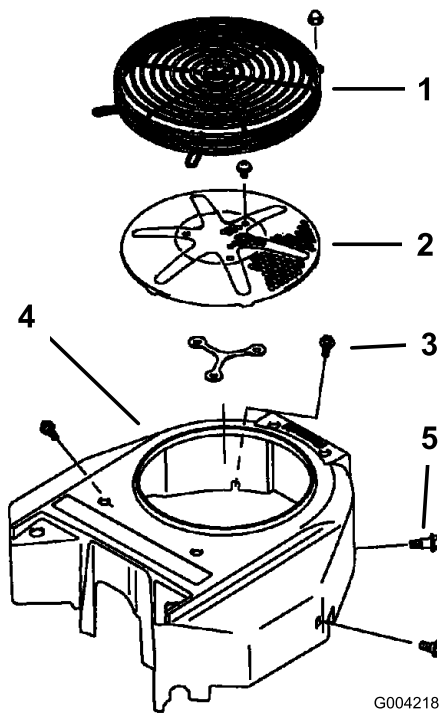

Figure 75
Before each use remove any build-up of grass, dirt or other debris from the engine screen. This will help insure adequate cooling and correct engine speed and will reduce the possibility of overheating and mechanical damage to the engine (Figure 75).
3. Remove the air intake screen, recoil starter and fan housing (Figure 75).
5. Install air intake screen, recoil starter and fan housing (Figure 75).